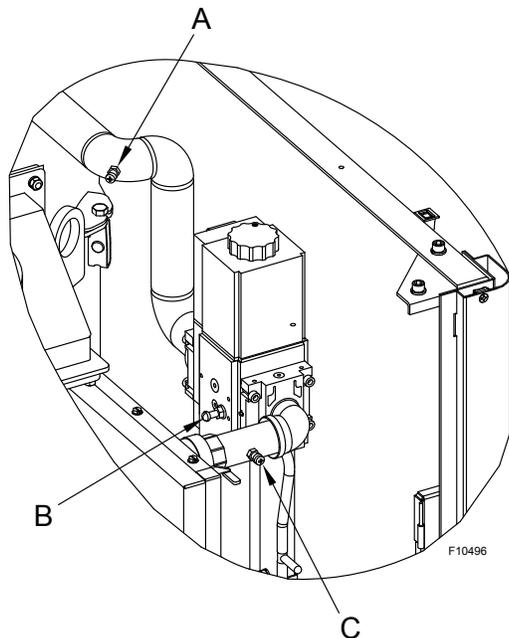

Figure 73. Gas Pressure Measurement Locations
2. Attach (1) 12" scale manometer to an upstream bleedle valve on the gas supply pipe to the boiler (Measure point "A" in **Figure 73**).
3. Attach (1) 24" scale manometer to the manifold pressure tap located near the shutoff valve downstream of the firing valve (Measure point "C" in **Figure 73**).
1. Check blower suction using the manometer attached to the air pressure tee at B as shown in **Figure 73**, with the boiler firing at 100% input. The reading should be as noted in **Table AE** for both natural and propane gas.
1. Check manifold gas pressure at the gas valve outlet pressure tap (connection "C" in **Figure 73**). Refer to **Table AF** for natural and propane gas pressure ranges and tolerances.
Proper leak testing requires three pressure test points in the gas train. Remove the upper front panel to access the gas valve for this test. See **Figure 73**.